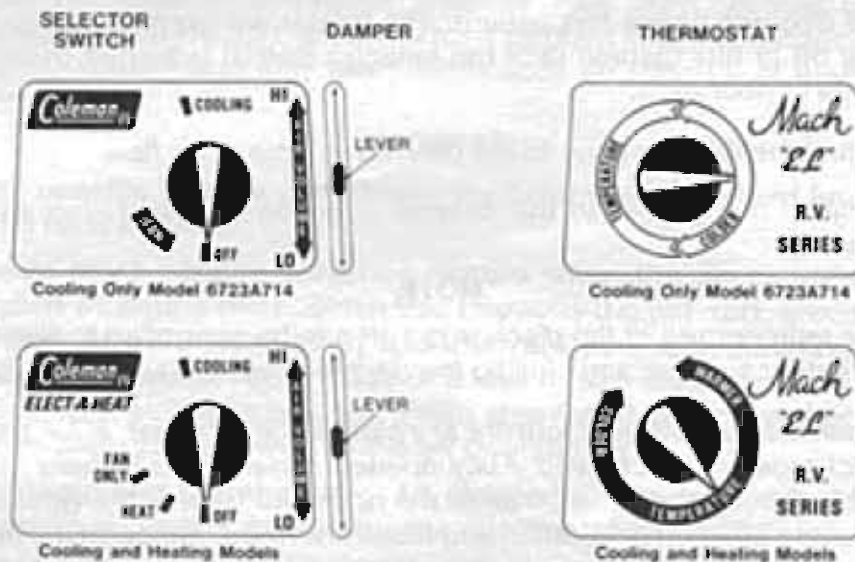

FIGURE 2
- I. **For Air Recirculation Only (refer to Figure 2).**
**II. For Cooling (refer to Figure 2).**
**III. For Heating ("Elect-A-Heat" ceiling assembly models only) refer to Figure 2.**